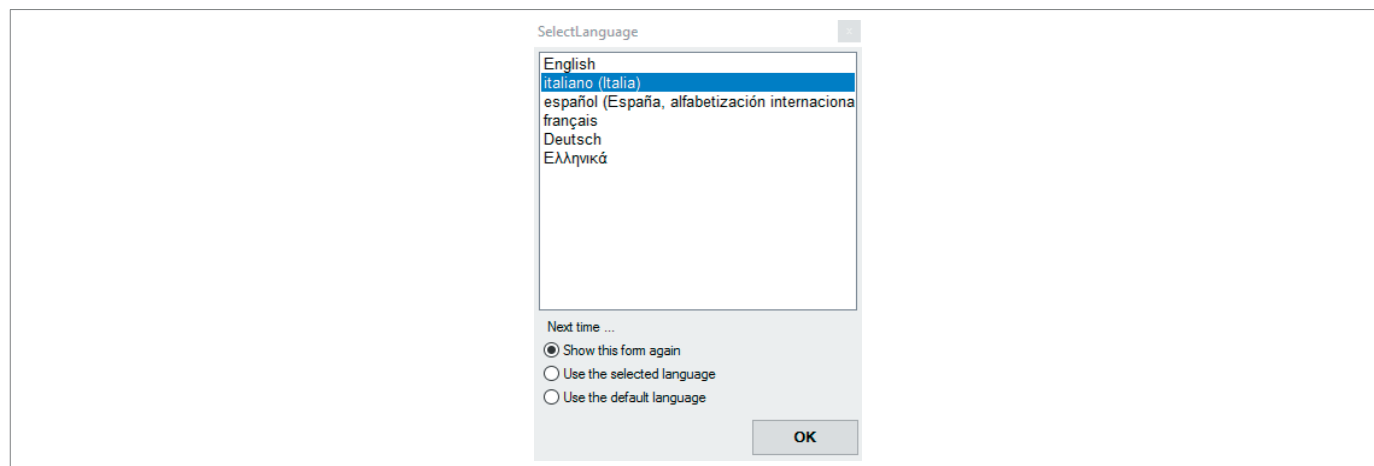

Fig. 8.18. Language selection
2. Select the desired language (Fig. 8.18)